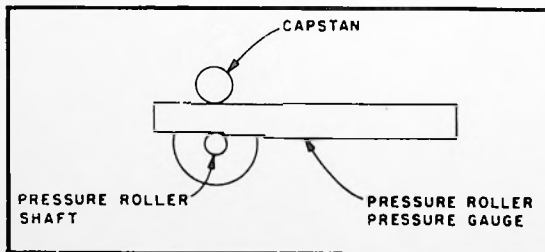

Figure 3-3
2. With the solenoid engaged place gauge 1st step - Dimension A end between the pressure roller shaft and capstan shaft. (See Figure 3-3.)